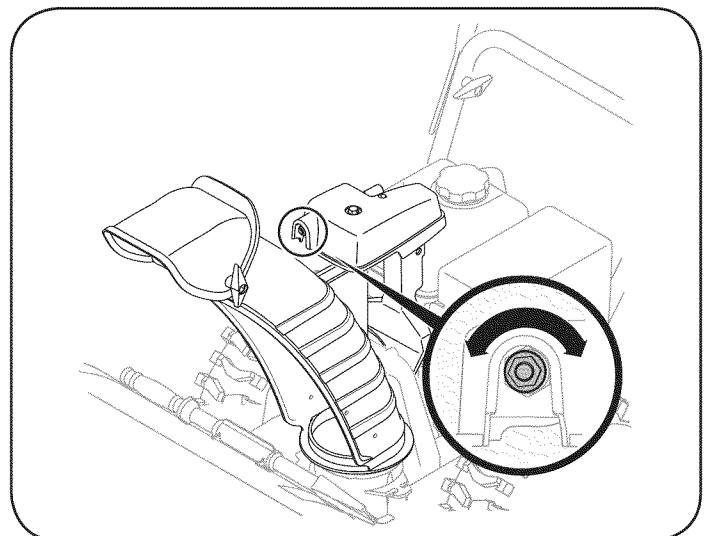

Figure 24
1. To increase the preload, tighten the hex nut clockwise in $\frac{1}{4}$ turn intervals. See Figure 24.